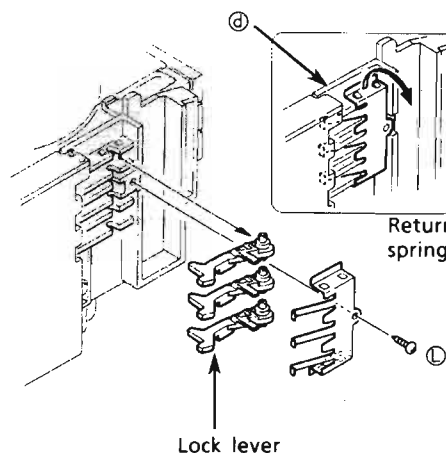
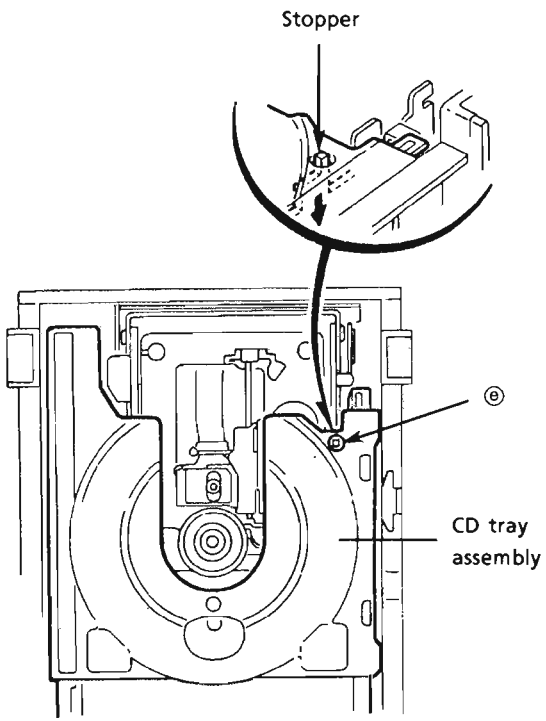

Fig.30
Fig. 31
7. Remove a screw ⑥ which secures the return spring and lock levers from the chassis ass'y.(See Fig. 30.)
8. Remove 2 pawls ⑦ which slightly secure the return spring to remove it.
10. Check that the lifter unit stopper is inserted into hole ⑧ located on CD tray ass'y. (See Fig. 31.)